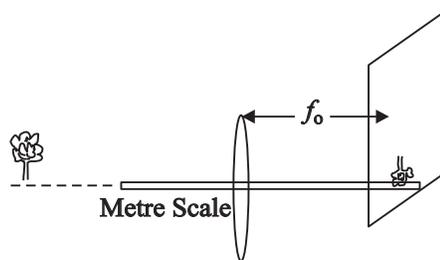

Fig. 19.4
- (i) Find the focal length of the objective Lens  $f_o$ , by focussing the image of a distant bright object on a screen, or on a wall of your laboratory and measuring its distance from the lens (Fig. 19.4). Similarly, find the focal length of eye lens  $f_e$ . These are only approximate values.